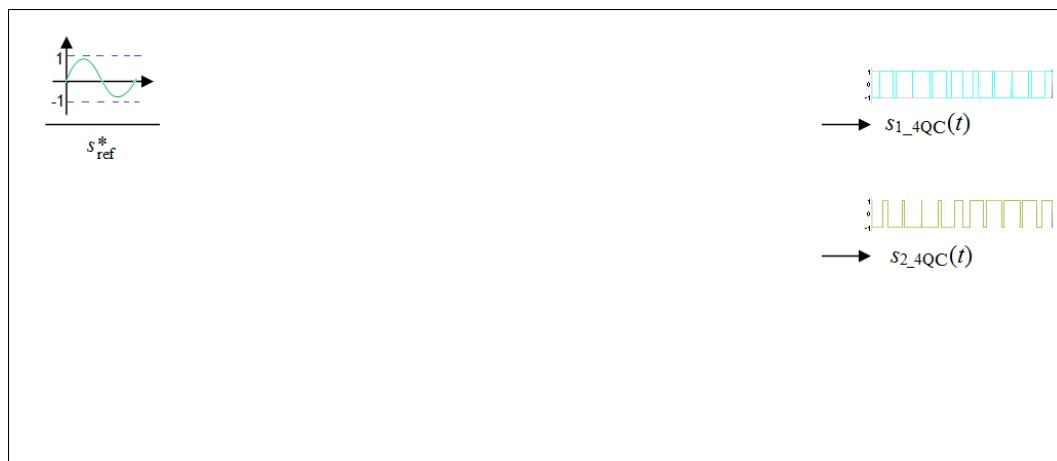

Figure 3.2: PWM unit for interleaved switching mode
- 3.1** Draw the structure of the PWM unit for interleaved switching mode in Figure 3.2. Input is the normalized reference voltage, output are the two switching signals for the two legs of the 4QC.